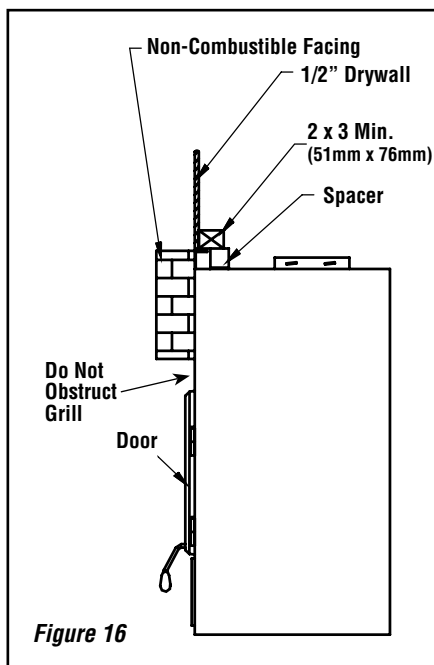
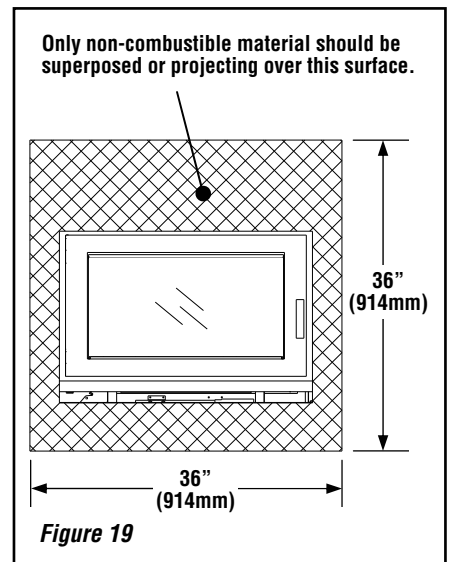

Figure 16
Figure 19
*NOTE: Non-combustible materials like brick, stone or ceramic tiles may be overlaid on the fireplace front (see **Figure 16**).*
Combustible materials must be installed to be aligned with the fireplace front and can not overlay on the fireplace front (black steel face of the fireplace) (see **Figures 16 and 17**). Non-combustible materials such as brick, stone or ceramic tile can project in front of and onto the fireplace facing up to the tiling flange on the clean face kit (**Figure 19**).